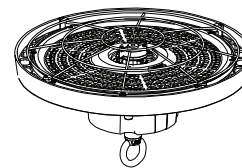

FIGURE 11
Step 1: Position the wire guard over the lamp and secure it with screws (see Figure 11).